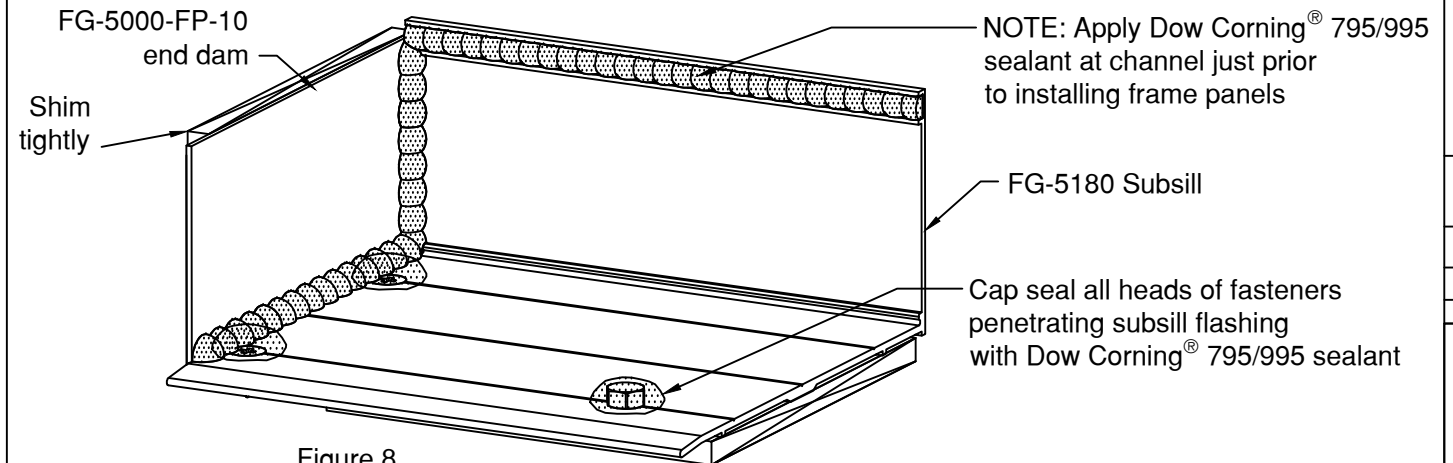

Figure 8
See figures 8 and 9 on sheet 6
See figures 8 and 9 on sheet 8 for sealant to be applied during installation.
- 3.1.2 Wedge shims tightly between end dams and jamb substrate at each end prior to installing frame panels. These shims prevent the end dams from being dislodged while frame panels are being installed. Completely seal end dams as shown SEE FIGURE 8.